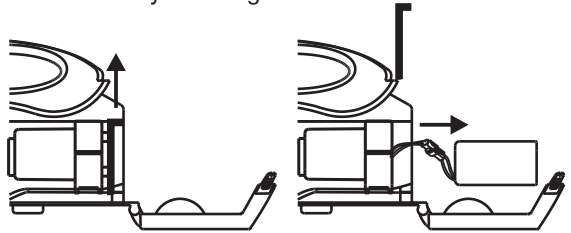

Fig. 7
- (B) The battery is “spring loaded” behind an interior steel plate. Remove the interior steel plate by sliding it upwards and battery. See Fig. 7.